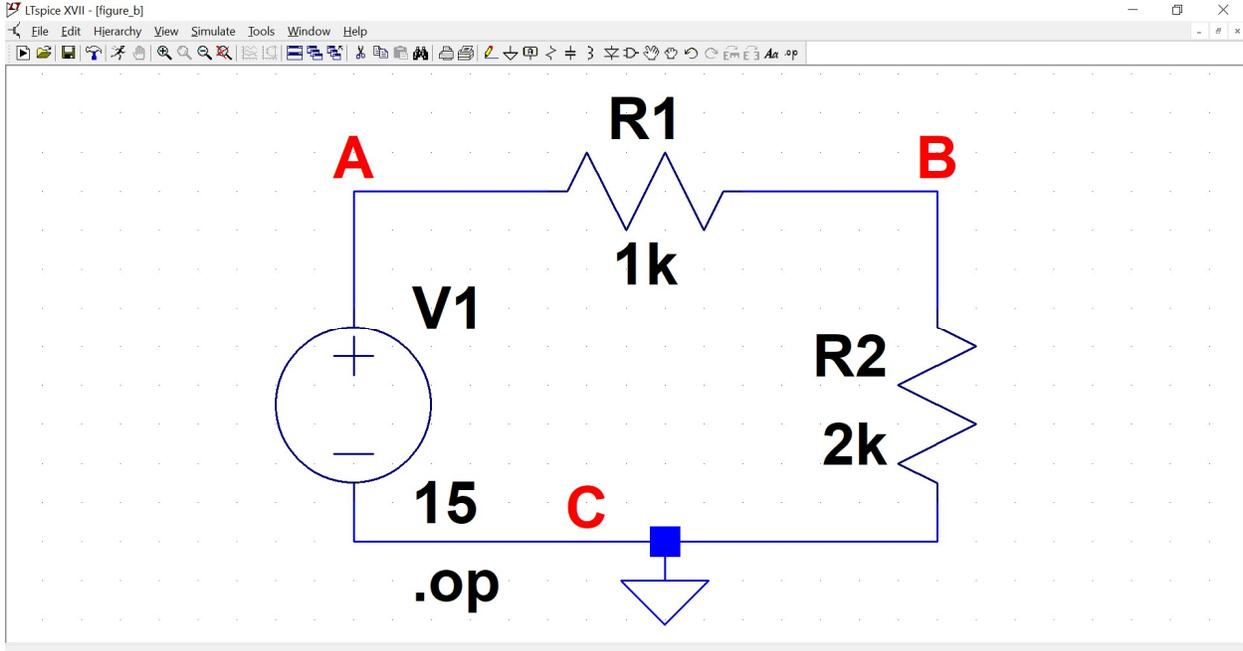

Figure B-6 Finished Layout
- After setting up the circuit layout, we are now ready to setup the simulation parameters. Click on the Simulate drop down menu and select Edit Simulation Cmd. We are going to calculate the DC operating point which will work similar to the voltmeter. Select the 'DC op pnt', click OK, and drop the .op command anywhere on the circuit schematic. The final layout will appear as shown in Figure B-6